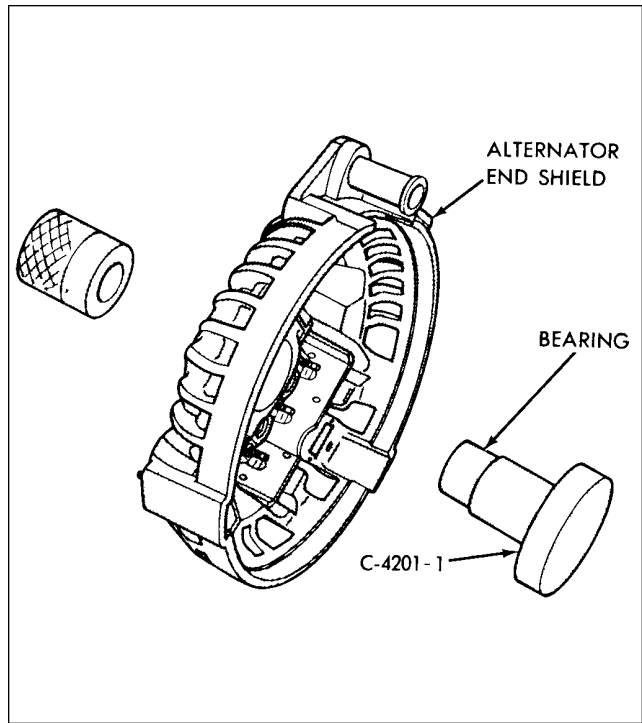

Figure 24-19. Installation of Rectifier End Shield Bearing
2. Position the rectifier end shield bearing on the base of tool C-4201. Place the alternator end shield on top of bearing so that it is properly aligned. With the top part of tool C-4201 placed on the end shield, press into place until it bottoms against it. (Refer to Figure 24-19.)